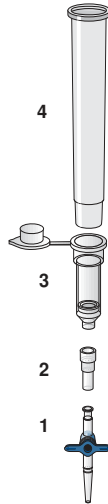

Figure 1. Assembly of components of the QIAamp DSP Virus Kit for vacuum processing of samples:
Ensure that you set up the Column Extender (EXT), QIAamp MinElute Column, VacConnector (VC) and VacValve correctly (see Figure 1).
5. Centrifuge the Lysis Tube (LT) for ≥ 5 seconds at full speed to remove drops from the inside of the lid.
6. Change gloves and open the Lysis Tube (LT) carefully.
7. Add 600 μl ethanol (96–100%) to the Lysis Tube (LT), close the lid, and mix thoroughly by pulse-vortexing for ≥ 15 seconds. Incubate for 5 minutes (± 1 minute) at room temperature (15–25°C).
8. Centrifuge the Lysis Tube (LT) for ≥ 5 seconds at full speed to remove drops from the inside of the lid.
9. Insert the QIAamp MinElute Column into the VacConnector (VC) on the vacuum system (see Figure 1, page 21). Insert a Column Extender (EXT) into the open QIAamp MinElute Column.